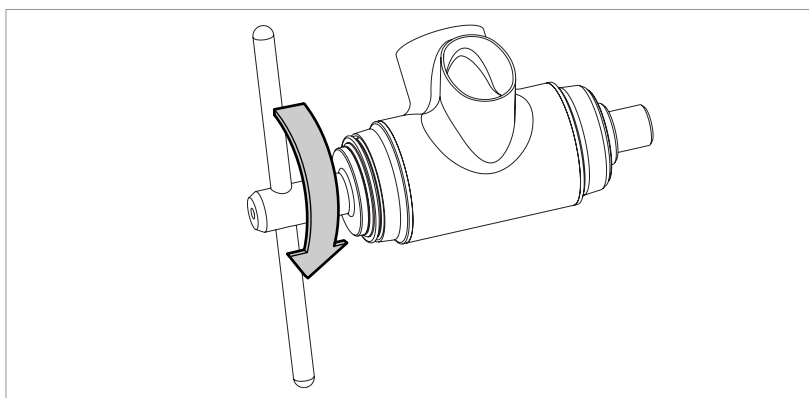

Fig.3
- Turn the lever of tool UT-BB240 clockwise until both bottom bracket cups are flush with the bottom bracket (Fig. 3).
Before removing the tool, check that the bottom bracket cups are installed correctly on the bottom bracket (Fig. 3).